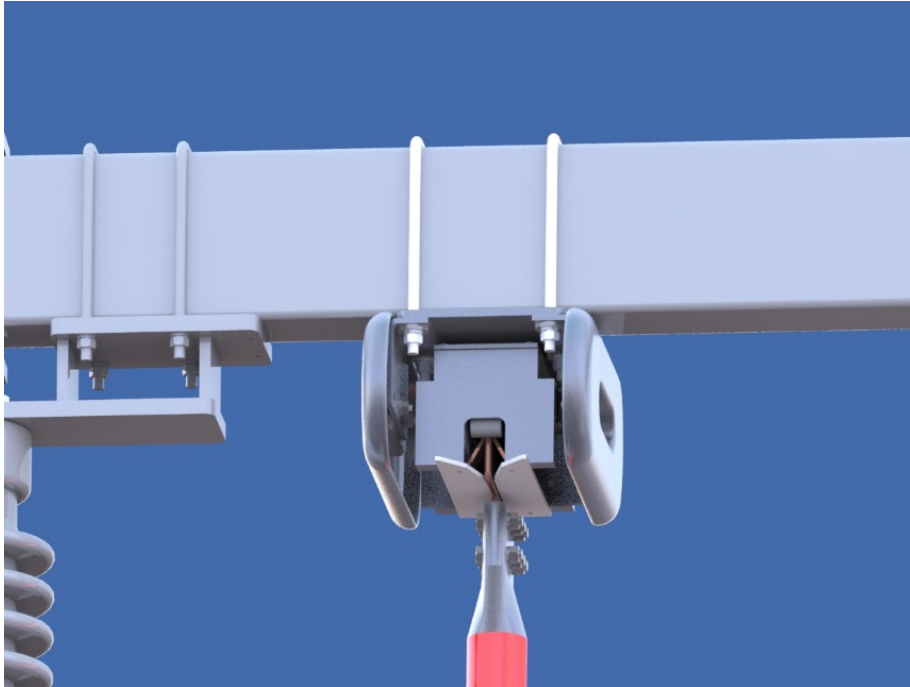

Figure 2: Jaw contact
- 2.1. Carefully, lift the blade by hand confirming the blade tip is centered in the jaw (**Figure 2**) and the leading edge is in line with the jaw opening. If correct and you haven't done so, tighten the jaw in place and proceed to installing the drive linkage.